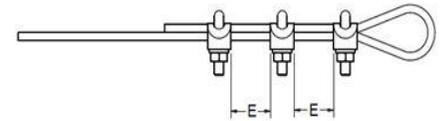

FIG. 04
- Apply the third Wire Rope Clip between the first and the second Wire Rope Clips as shown in FIG. 04 to meet dimension [E] on both sides of the Wire Rope Clip [SEE – FIG. 04].
- Dimension [E][SEE – FIG. 04] between the edges of Wire Rope Clips should be at least 1.5x and not more than 3x the width of the Wire Rope Clips.